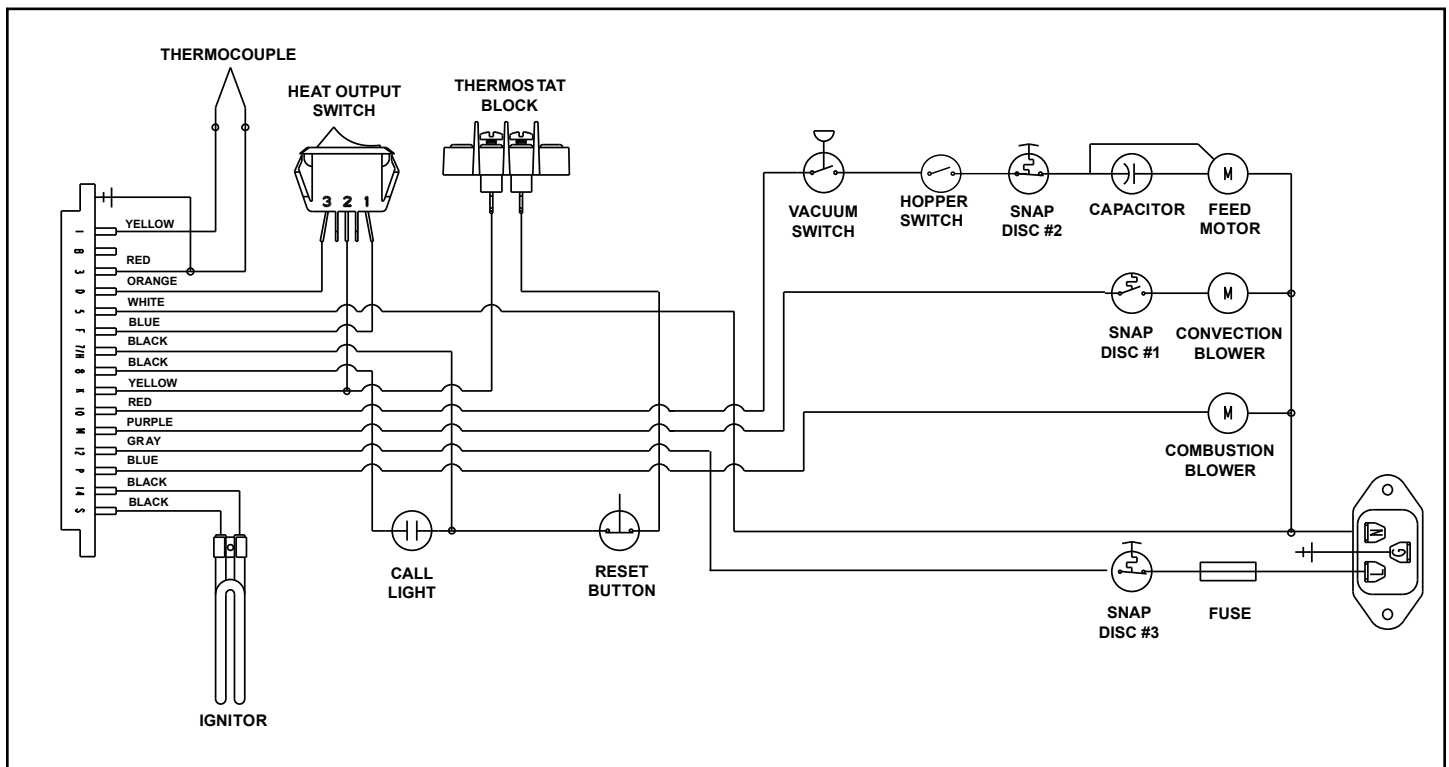

Figure 27.1
21. **Wiring Harness:** See **Figure 27.1** below.